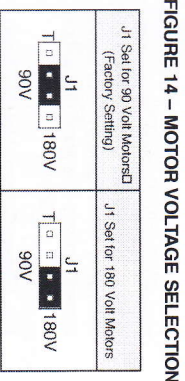

FIGURE 14 – MOTOR VOLTAGE SELECTION
A. Motor Voltage Selection (J1) – Jumper J1 is factory set to “90V” position for 90 Volt SCR rated motors (or 130 Volt PWM rated motors). For 180 Volt SCR rated motors (or 220 Volt PWM rated motors), set Jumper J1 to “180V” position. See Figure 14.